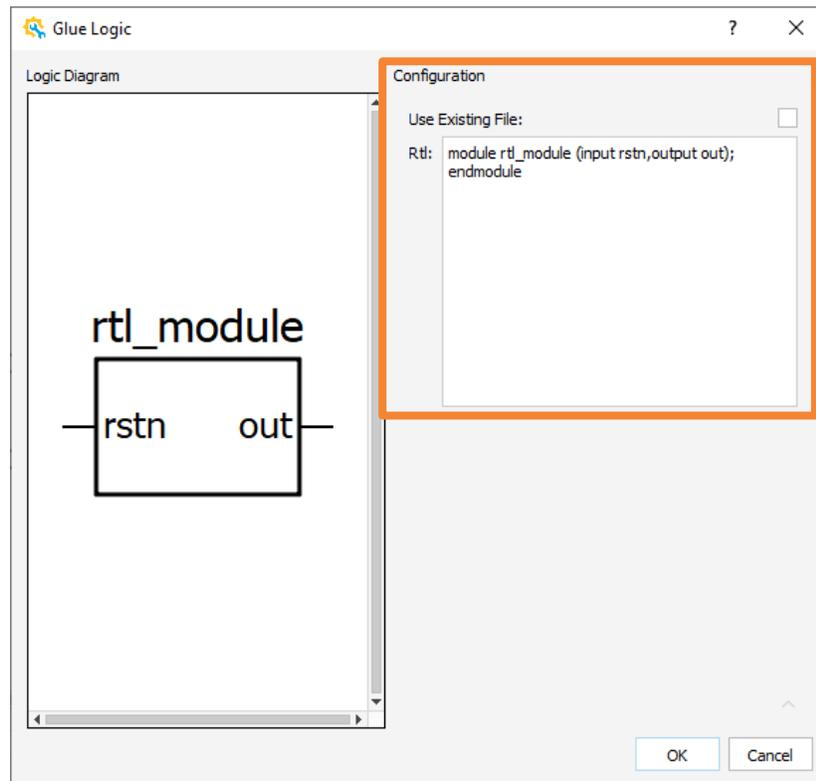

Figure 2.26. Glue Logic Wizard for Rtl Module
- a. From the IP Catalog, select the **rtl** module. Double-click the rtl module or drag and drop the rtl module to the Schematic view. A Glue Logic wizard (Figure 2.26) pops up.